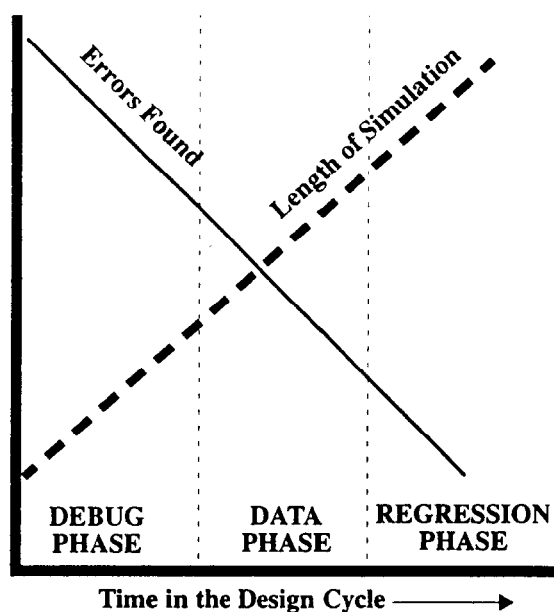

Figure 2. LIFE of SIMULATION Chart
SIMULATION LIFE: Verilog and VHDL are not just languages—they are inputs and outputs to a host of software tools (simulators, synthesis, etc.). The primary tool is the HDL simulator. Figure 2 shows that as the typical simulation design cycle unfolds the number of errors found decreases and the length of simulation time needed to find an error increases. At the beginning of the design cycle, during
- **FUNCTIONAL SIMULATION:** Verilog simulators seem faster than VHDL counterparts. This is most likely because Verilog simulator companies have invested all of their R & D on making the simulator engines work better and faster. Verilog is also simpler as a language which might make it have a speed advantage. Verilog's speed advantage is most likely to increase because Verilog is just now starting to include some more advanced compiler technology (native-compiled engines—something VHDL simulators already exploit). But as figure 2 shows, speed of the simulation run is most advantageous towards the end of a design cycle. A good fast UI with fast turnaround capabilities is a must in the first half of a design cycle. Here the VHDL simulators are the clear winners, with the Verilog simulators just starting to clue in and catch on.